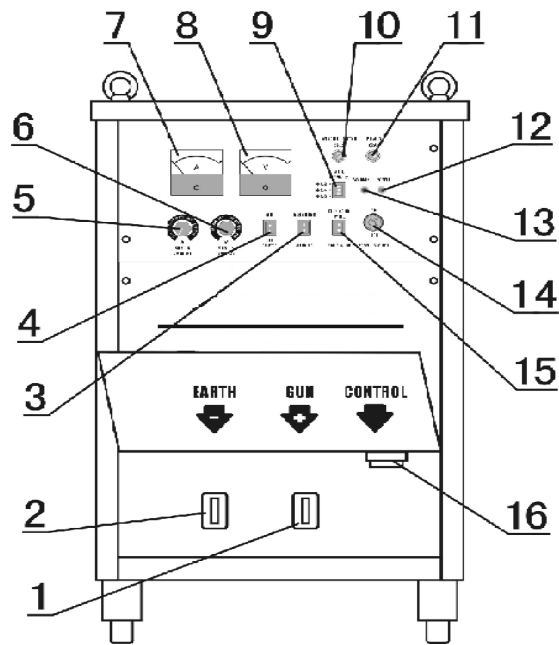

Fig.1 Control function of panel diagram
3. Control function of panel is shown as Fig.1, List 2.